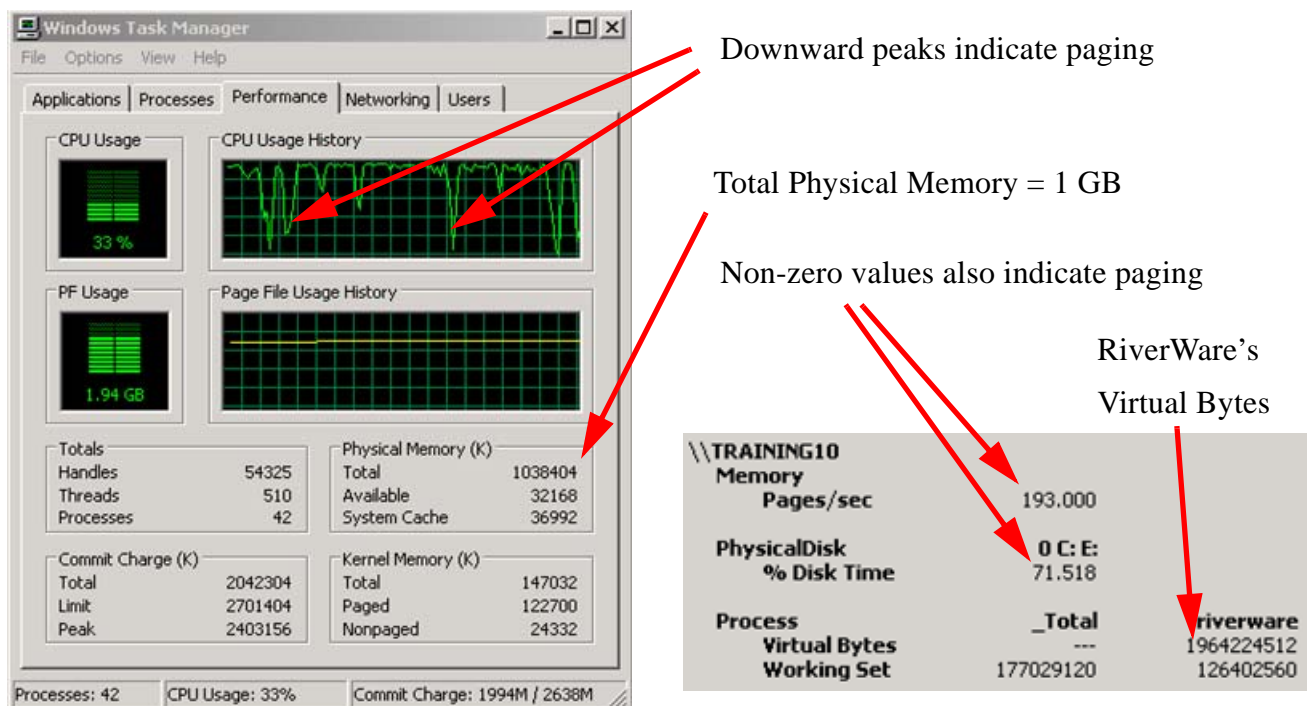

Figure 9: Using the task manager (left) and perfmon (right) to identify if paging is occurring
**Manager** will be less than full (for a single CPU, less than 100%). Figure 9 show a model run where more RAM would be appropriate. Notice also that RiverWare's Virtual Bytes is 1.9 GB but there is only 1 GB of total physical memory.